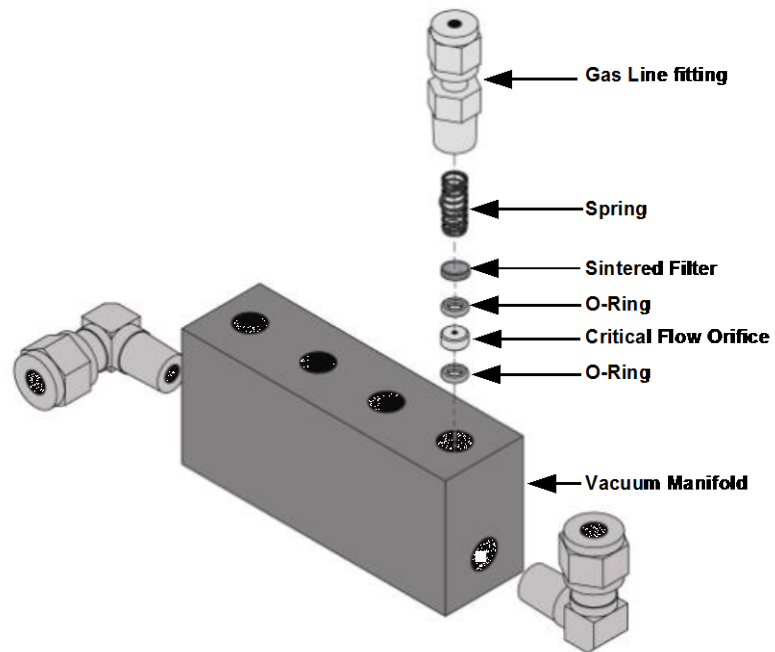

Figure 7-4. Critical Flow Orifice Assembly
2. Locate the critical flow orifice on the pressure sensor assembly (called out in Figure 7-4).
9. Re-assemble the parts as shown in Figure 7-4 using a new filter and o-rings.